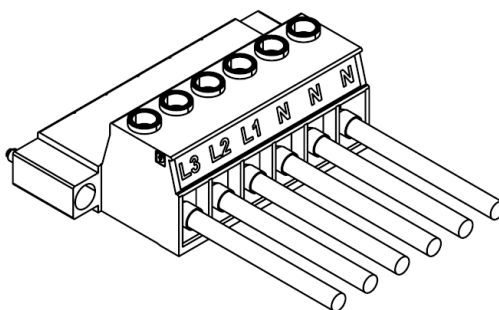

Figure 7-19: Inserting the Load Wires
5. Insert the wires into the terminals as shown in **Figure 7-19** and tighten the terminal screws securely using a tightening torque of 15–16 Lbf-inch (1.7–1.8Nm).